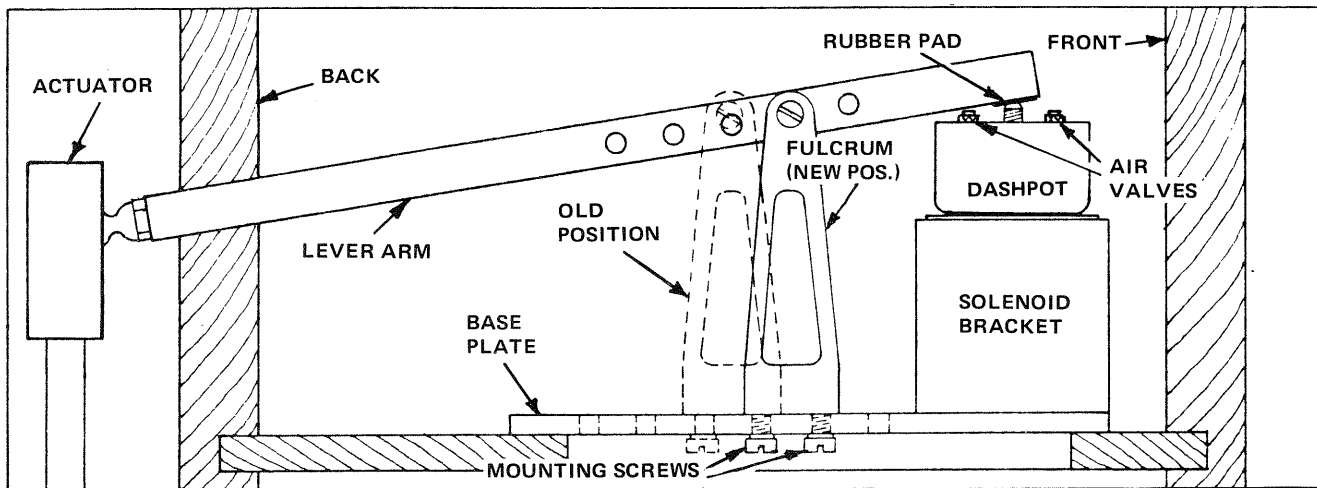

FIGURE 9-35 Fulcrum adjustment.
- U. Move the Vorsetzer away from the piano and adjust the Fulcrum point of the Lever Arm. To adjust the Fulcrum point, remove the Screw through the Lever Arm and the two (2) mounting Screws on the bottom of the Fulcrum (see FIGURE 9-35). Move the Fulcrum back one set of holes TOWARD the Solenoid and remount it to the Base Plate with the two (2) mounting Screws. Mount the Lever Arm to the Fulcrum with its mounting Screw (use the next hole TOWARD the Solenoid from the original hole that was used). See FIGURE 9-35 below. Proceed to Point V.